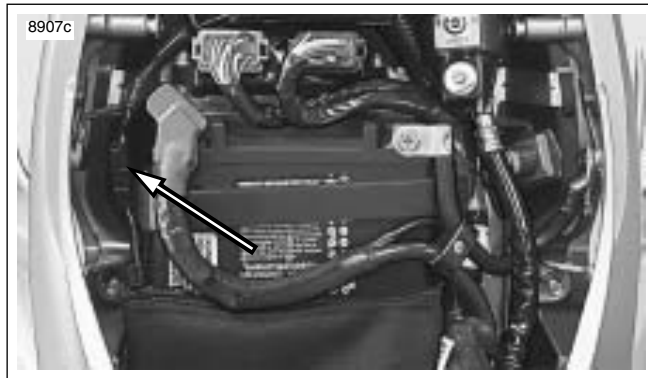
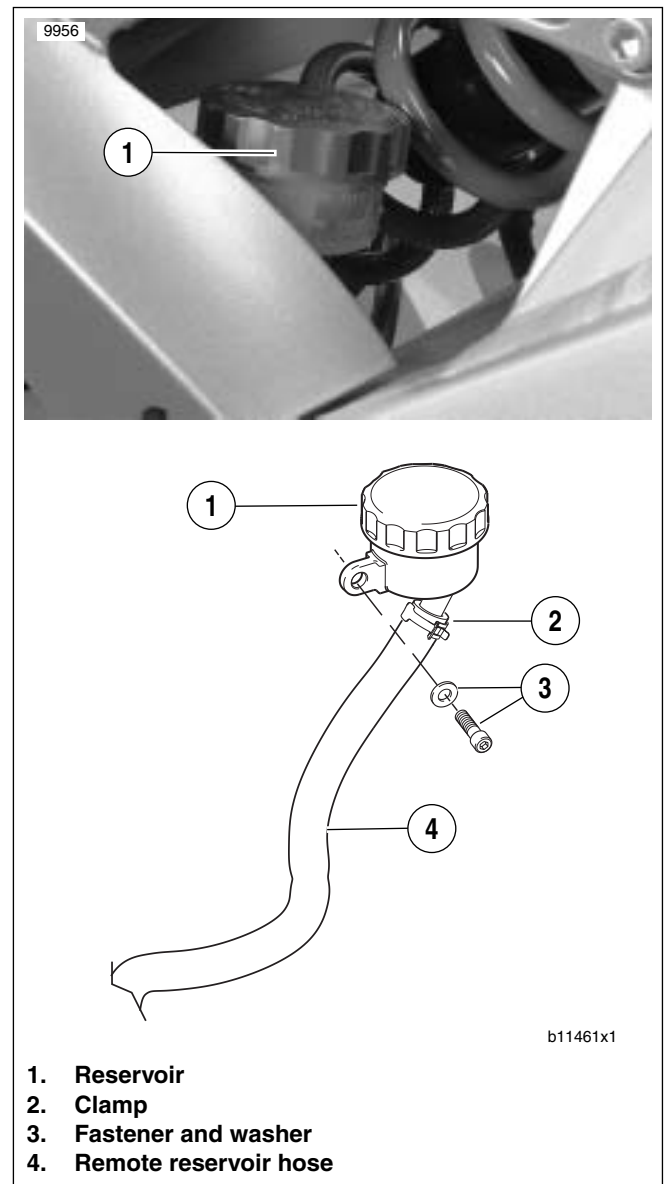

Figure 2-50. Brake Line Switch Connector
Figure 2-52. Remote Reservoir
6. See Figure 2-50. Disconnect brake light connector located under the seat.
10. See Figure 2-52. Detach remote reservoir.
- a. Remove top clamp (2) on hose connected to master cylinder.
- b. Remove fastener and washer (3) to detach reservoir (1) from frame if necessary.
4. See Figure 2-52. Connect remote reservoir.
- a. If removed, attach remote reservoir (1) to frame using fastener and washer (3). Tighten to 48-72 **in-lbs** (5.4-8.1 Nm).
- b. Attach hose (3) to rear brake reservoir using clamp.
5. See Figure 2-50. Connect brake line switch connector under seat.